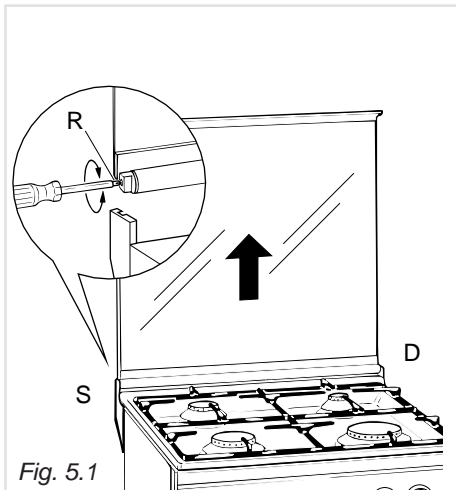

Fig. 5.1
- The right housing must receive the hinge marked “D” while the left housing must receive the hinge marked “S” (fig. 5.1)
Lower the lid and check the correct balance. While opened at 45° it should hang up. The springs of the hinges can be adjusted if necessary by turning the screws “R” clockwise (fig. 5.1).